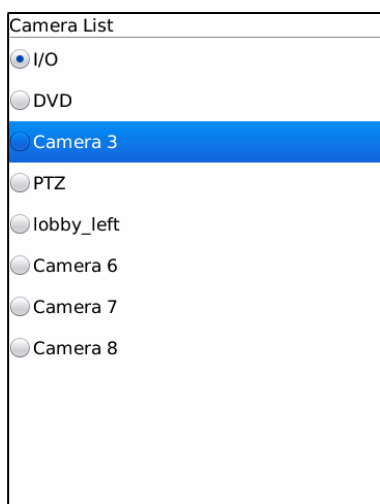

Figure 8-76
⑩ To search the recordings of the specific time, follow these steps:
1. On the Settings page (see Figure 8-76), select **RPB** and click **Submit**. This page appears.
⑩ To play back the last ten recordings, follow these steps:
1. On the Settings page (see Figure 8-76), select **Last 10 Video Files** and click **Submit**.